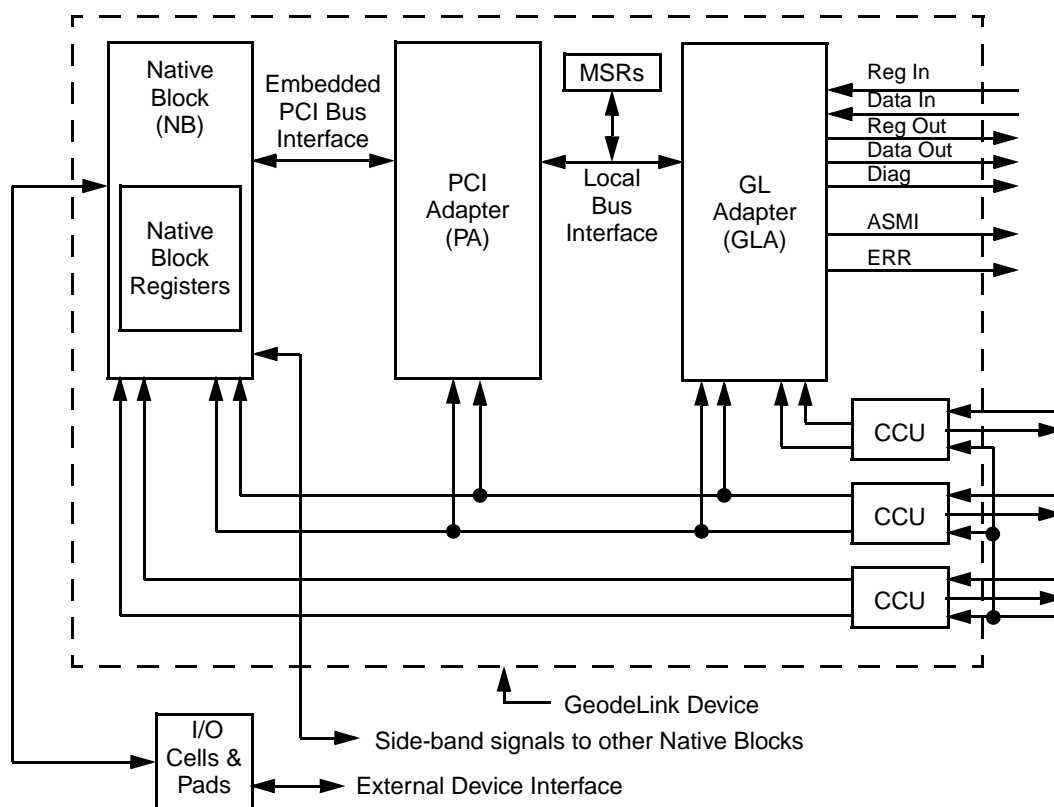

Figure 3-5. CS5535 GeodeLink Device With Embedded PCI Bus
3.4 EMBEDDED PCI ADAPTER (PA)
A GeodeLink Device with an embedded PCI bus is illustrated in Figure 3-5. Note the similarity with Figure 3-4 "Typical CS5535 GeodeLink Device" on page 55. The only difference is the PCI Adapter (PA) located in the center of the figure. The PA allows a module designed for the PCI bus to be easily embedded in a GeodeLink architecture. It is used to embed the USB core into the GeodeLink architecture.